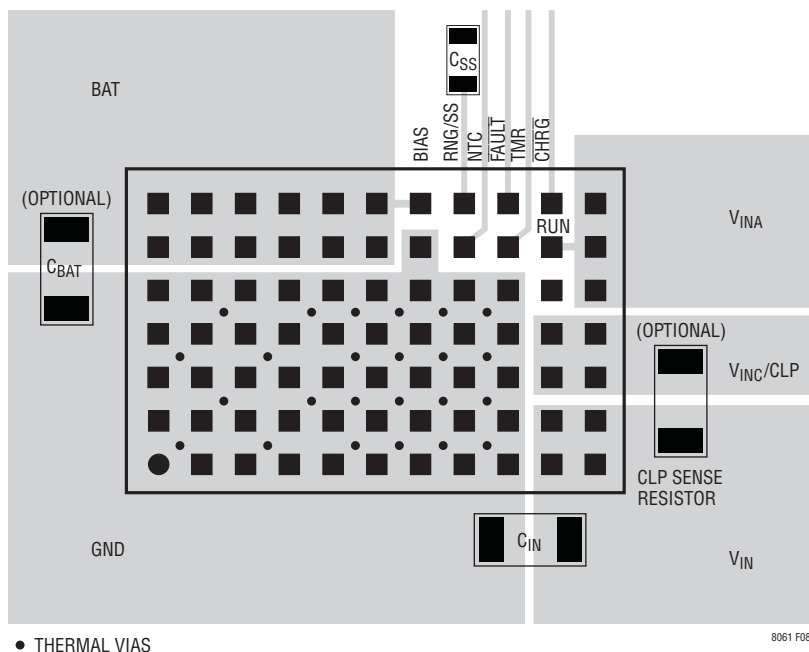

Figure 8. Layout Showing Suggested External Components, Power Planes and Thermal ViAs
Most of the headaches associated with PCB layout have been alleviated or even eliminated by the high level of LTM8061 integration. The LTM8061 is nevertheless a switching power supply, and care must be taken to minimize EMI and ensure proper operation. Even with the high level of integration, you may fail to achieve specified operation with a haphazard or poor layout. See Figure 8 for a suggested layout. Ensure that the grounding and heat sinking are acceptable.
5. For good heat sinking, use vias to connect the GND copper area to the board's internal ground planes. Liberally distribute these GND vias to provide both a good ground connection and thermal path to the internal planes of the printed circuit board. Pay attention to the location and density of the thermal vias in Figure 8. The LTM8061 can benefit from the heat-sinking afforded by vias that connect to internal GND planes at these locations, due to their proximity to internal power handling components. The optimum number of thermal vias depends upon the printed circuit board design. For example, a board might use very small via holes. It should employ more thermal vias than a board that uses larger holes.